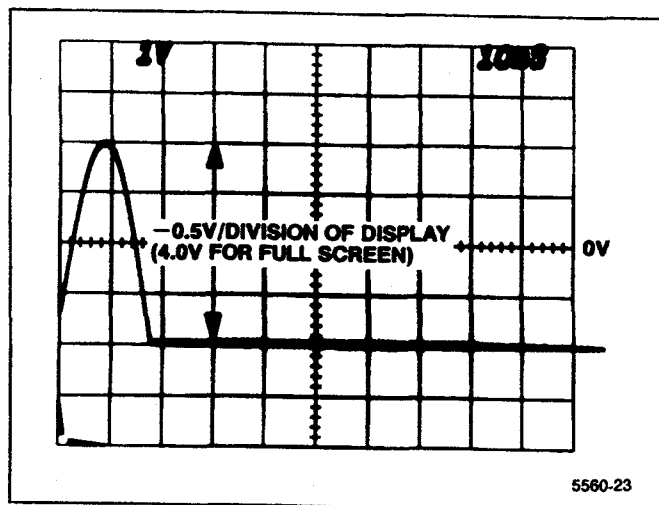

Figure 4-23. Test oscilloscope display of VERT output with a full screen display on the Spectrum Analyzer.
e. Check that the amplitude of the VERT OUTPUT signal is 4 V peak-to-peak  $\pm$ 0.2 V centered around 0 Vdc as displayed on the test oscilloscope. See Figure 4-23.